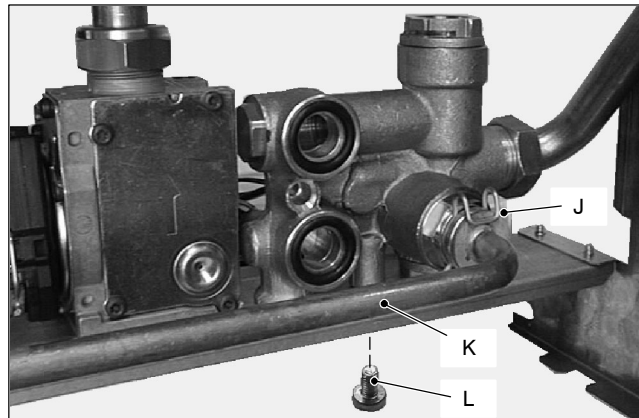

Fig. 25 Rear view of the boiler
- 8 Remove the fork *J* and move away the pipe *K* (Fig. 25).